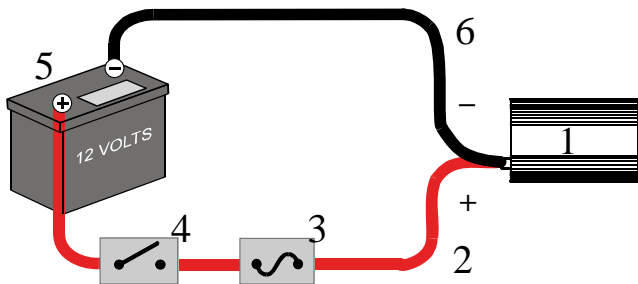

Figure 6 Hardwiring the XPower 300 to a 12 Volt Battery
Your method will depend on the size of the AC loads you want to power. When you connect the inverter, refer to Figure 5 and Figure 6.
For a permanent electrical connection, or when you need to power some loads that are greater than 150 watts and some that are less than 150 watts, you can hardwire the inverter to the battery. This eliminates the need to switch between the battery clip wire assembly and the cigarette plug wire assembly. A hardwired installation is illustrated in Figure 6.
3. Install a 40 amp automotive fuse and a switch rated at 40 amps in the positive (red) wire, close to the end that will attach to the battery. See Figure 6. The switch lets you disconnect the DC power if you need to replace the in-line fuse. Solder and insulate the connections as detailed in Step 2 above.
- If you need to replace the in-line fuse (see Figure 6), turn off the in-line switch to disconnect the DC power.